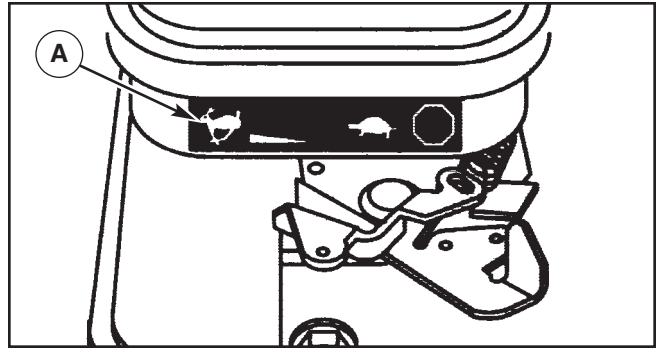

Figure 10: Throttle lever
8. Move throttle lever to “Fast” position (A), shown in Figure 10 as a rabbit.